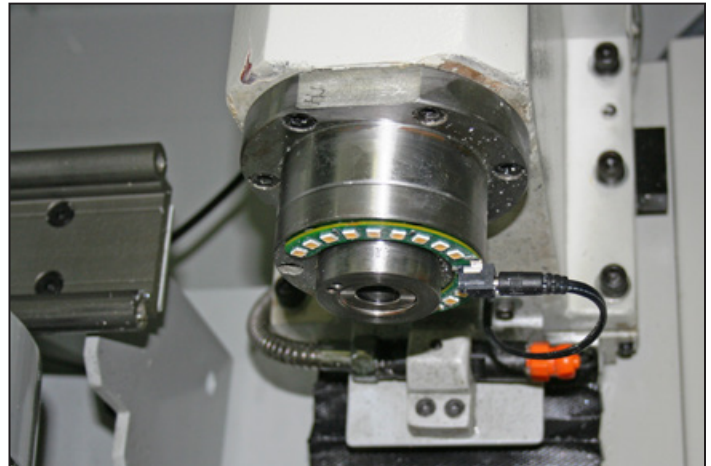

Figure 2
4. Attach spindle light to spindle (see **Figure 2**).
5. Connect together two Power Extension Cords and plug into light (see **Figure 2**).